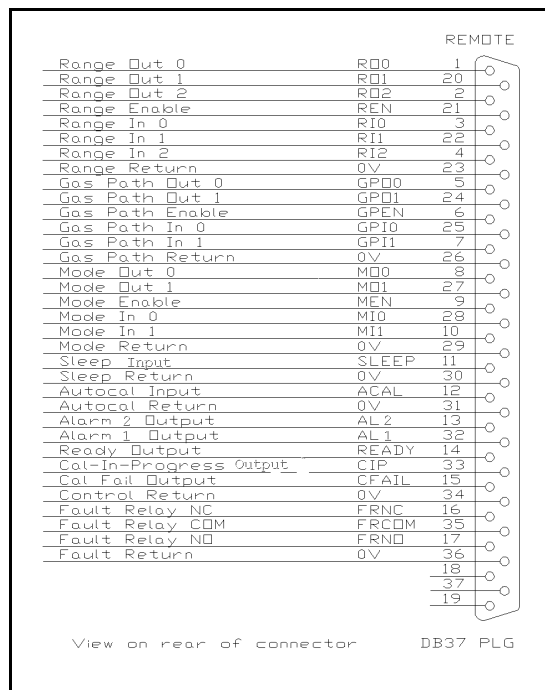

Figure 3 Remote Connections
3.7.2 The connector pin allocations are given in Figure 3. Not all functions are available in this analyser. Refer to section 7 for full information.